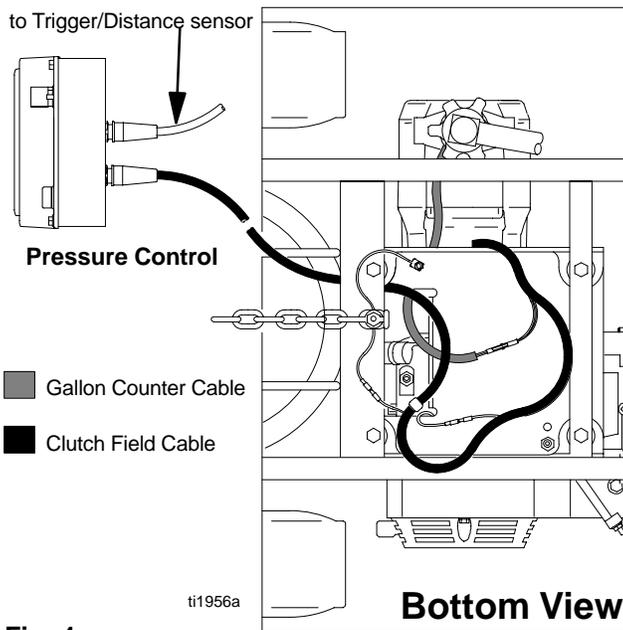

Fig. 4
2. Fig. 4. Disconnect all necessary wiring.
3. Fig. 4. Connect all necessary wiring.